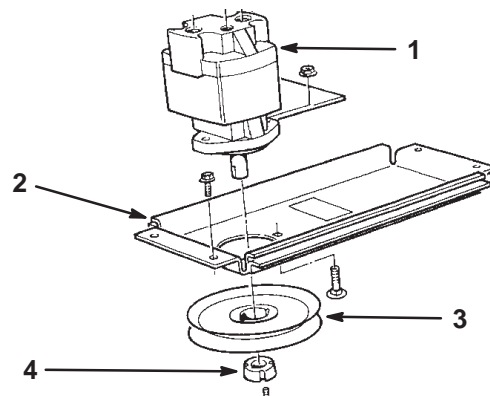

Figure 3
5. Remove (2) set screws and taper lock bushing securing drive pulley to motor shaft (Fig. 3). Discard pulley, bushing and set screws.
6. Remove (2) carriage bolts and flange nuts securing drive motor to gearbox plate (Fig. 3). Discard gearbox plate.
28. Remove (3) screws, lockwashers and hub securing drive pulley to motor shaft (Fig. 3).
29. Remove (2) carriage bolts and flange nuts securing drive motor to slide plate (Fig. 3).